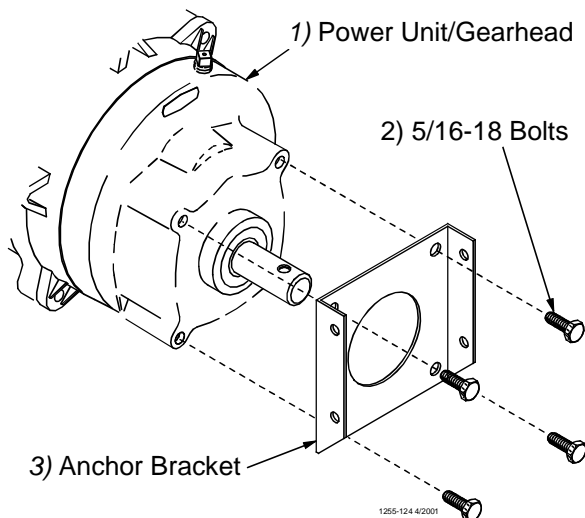

Figure 29. Assemble the Anchor Bracket to the Power Unit/Gearhead
3. Install the Anchor Bracket to the Power Unit/Gearhead, as shown in **Figure 29**, with the included 5/16-18 Bolts.